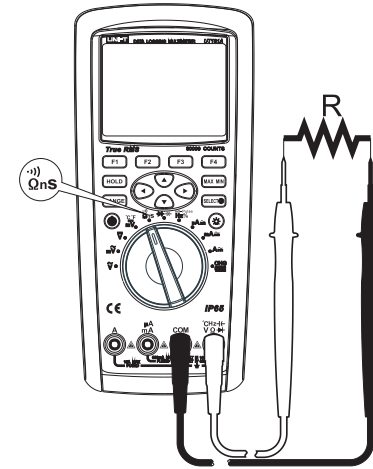

Figure 8
- 2) Set the rotary switch to the measurement Ω nS \rightarrow and current Ω is the default resistance measurement as shown in Figure 8. Connect the test leads to both ends of the measured resistance.
- 2) Set the rotary switch to the measurement Ω (nS) . press the key SELECT to select conductance measurement 60nS. Connect the test leads to both ends of the measured resistance as shown in Figure 8.
- 2) Set the rotary switch to the measurement Ω nS \rightarrow , press the key SELECT to select the continuity test \rightarrow . Connect the test leads to both ends of the measured resistance as shown in Figure 8. Press the function key MENU (Menu) to enter the menu items. If pressing the key SHORT (Menu), then the buzzer selects